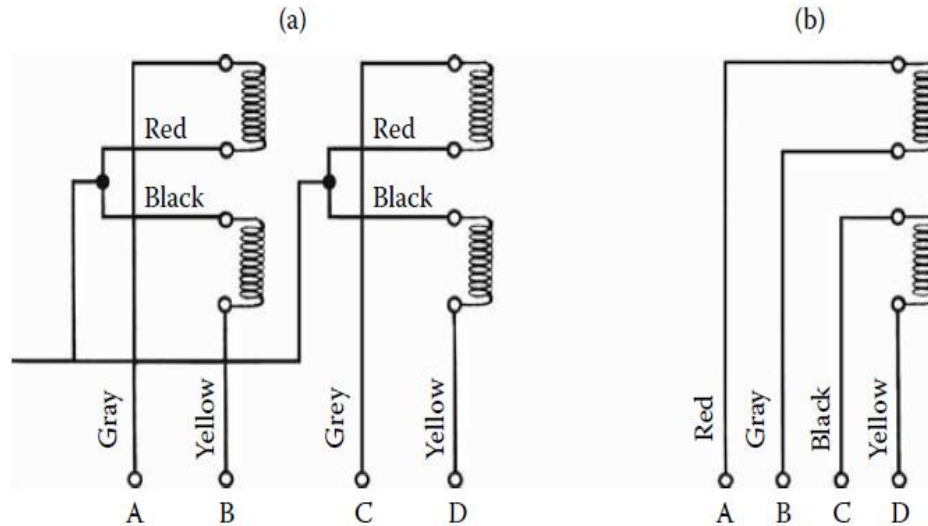

Fig. 4. Schematic of the stepper motor with PM: (a) unipolar with four coils, (b) bipolar with two coils.
- A **unipolar stepper motor** has **four** coils, and a **bipolar** one has only **two** coils, as shown in the control schematic presented in Figure 4.